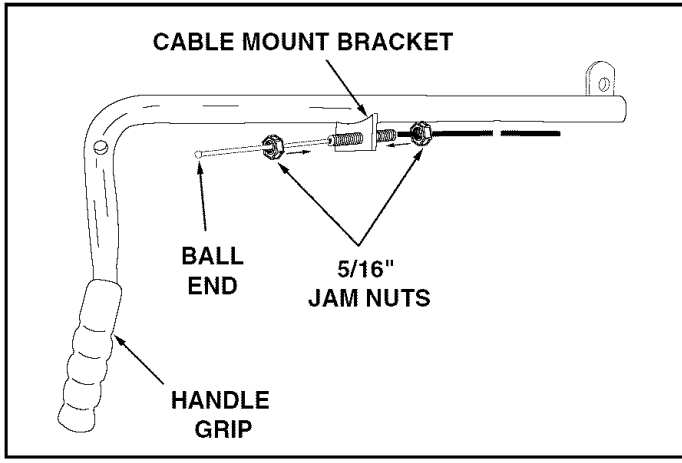

FIGURE 16 (Right Hand Side View)
- Screw one 5/16" jam nut approximately 3/4" onto the loose end of the control cable. Pass the cable around the outside of the lift handle rod and insert the threaded cable end through the cable mount bracket on the lift handle tube. Secure the cable with another 5/16" jam nut. **Tighten**. See figure 16.